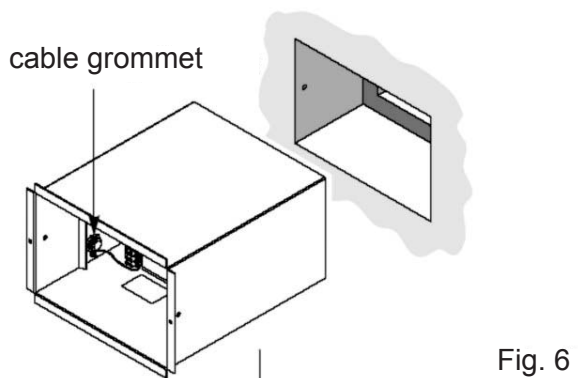

Fig. 6
1. Slide the unit into the mounting hole and ensure that the rear part of the mounting flange is flush with the inner wall (Fig. 6 and 7).
2. Run the power cable through the grommet (Fig. 6).